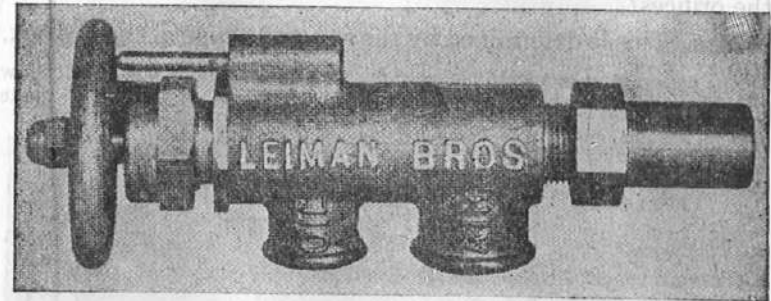
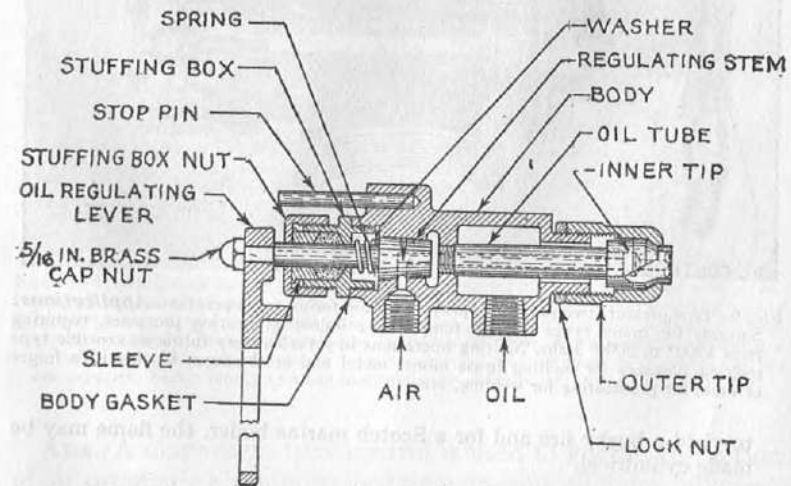

FIG. 7—External appearance of a typical medium air pressure spraying burner.
FIG. 8—Sectional view of the medium air pressure spraying burner shown in fig. 7.
**Ans.** The external appearance of a burner of this type is shown in fig. 7 and sectional view in fig. 8.
As constructed, fig. 8, oil under pressure is fed through a duct in the